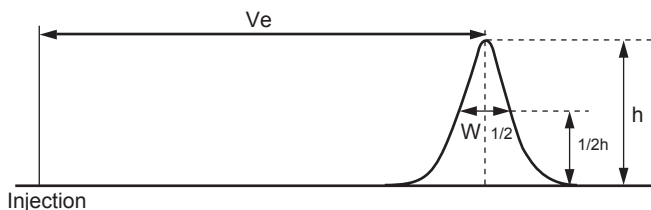

Figure 1 Method of Calculating Theoretical Plate Number
The theoretical plate number (N) of a column is calculated by the half width method shown in Figure 1 and the following equation.